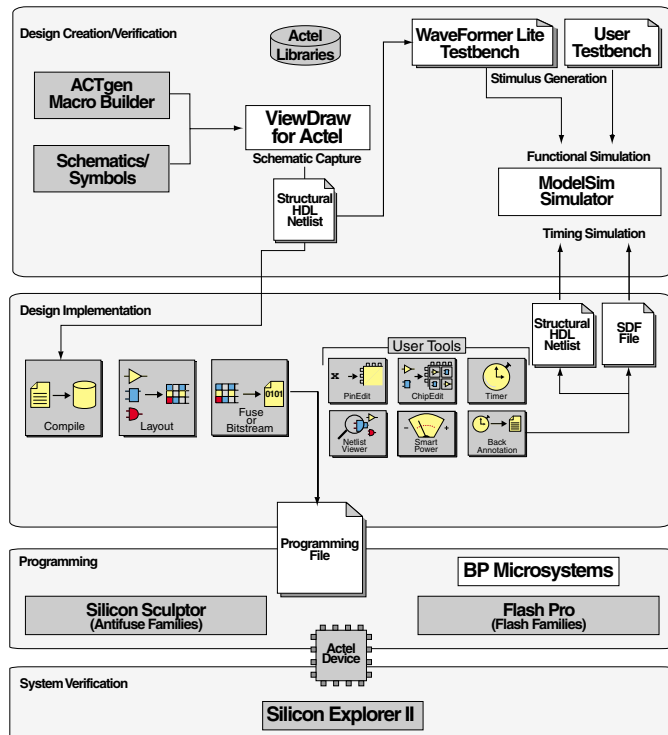

Figure 2-1. Actel Schematic-Based Design Flow
Figure 2-1 shows the schematic-based design flow for an Actel device using Designer Series and third-party schematic capture software.¹
1. Actel-specific utilities/tools are denoted by the grey boxes in Figure 2-1. Also, ChipEdit is replaced by ChipView for the ProASIC and ProASIC^{PLUS} families.